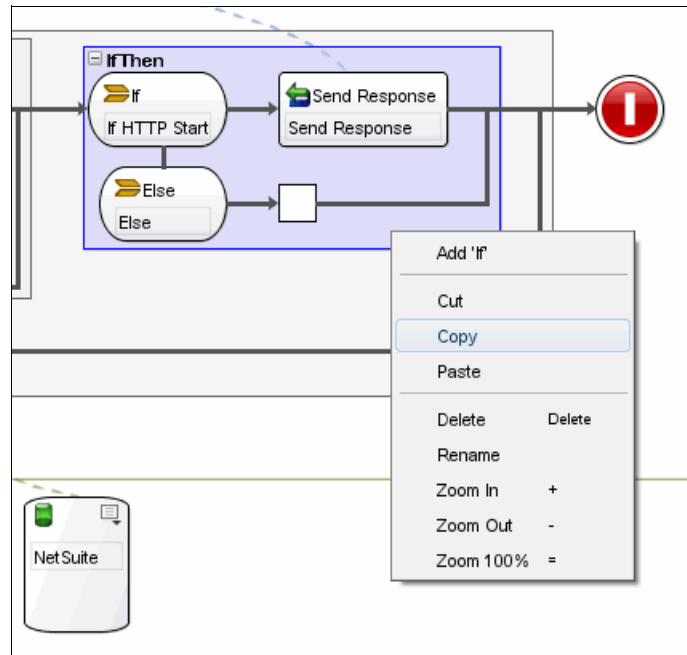

Figure 11-33 Copying an entire If...Then activity block
1. Right-click the If...Then block that you created previously, as shown in Figure 11-33. Select **Copy**.